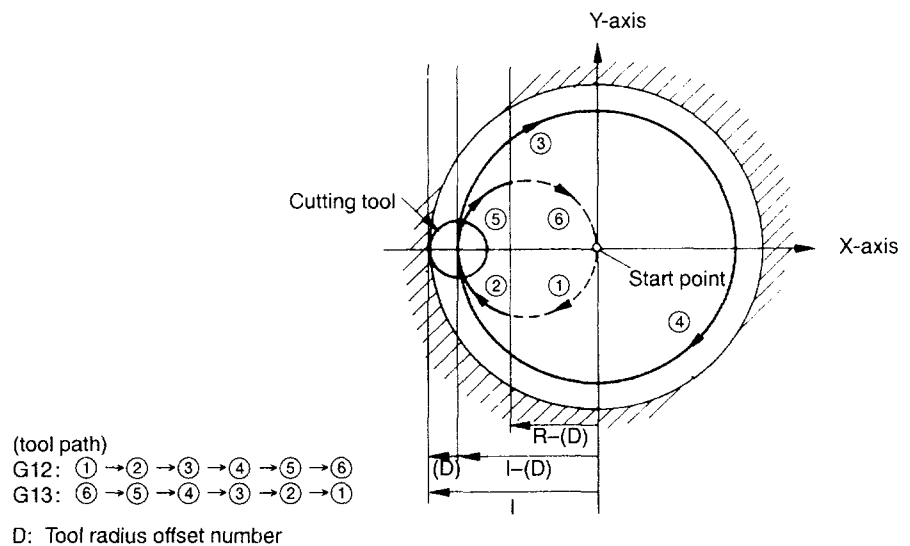

Fig. 4.25 Movements in the “X-” Direction (Symmetrical to Y-axis)
- Movements in the “X-” direction (symmetrical to Y-axis) are possible by changing the signs of I, J, K, and D. In the example as shown in Fig. 4.25, a negative value should be assigned for I, R, (and D). Note that cutting is not possible by Y-axis movements.